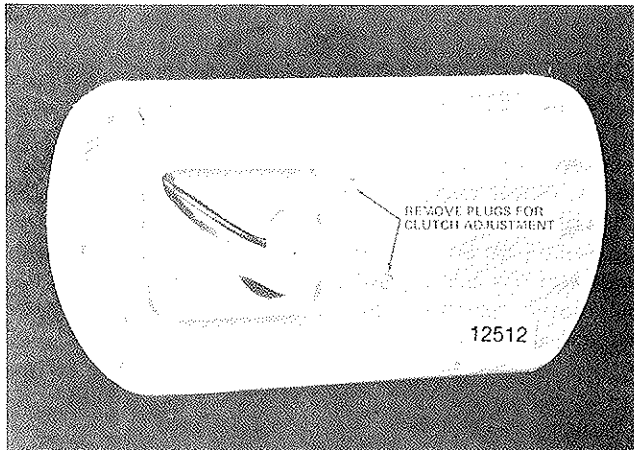

Figure 4-1. View Showing Clutch Adjustment Plug Location
f. Remove two pipe plugs from gearcase. (See Figure 4-1.)